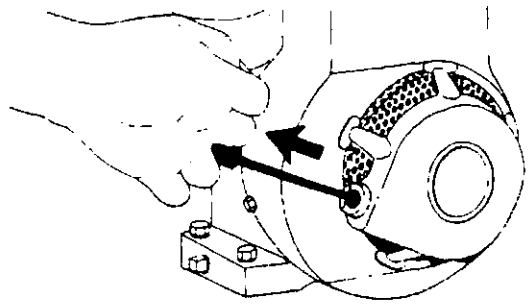

FIGURE 18.
4. Grasp starter handle (see figure 18) and pull rope out slowly until engine reaches start of compression cycle (rope will pull slightly harder at this point). Let the rope rewind slowly.